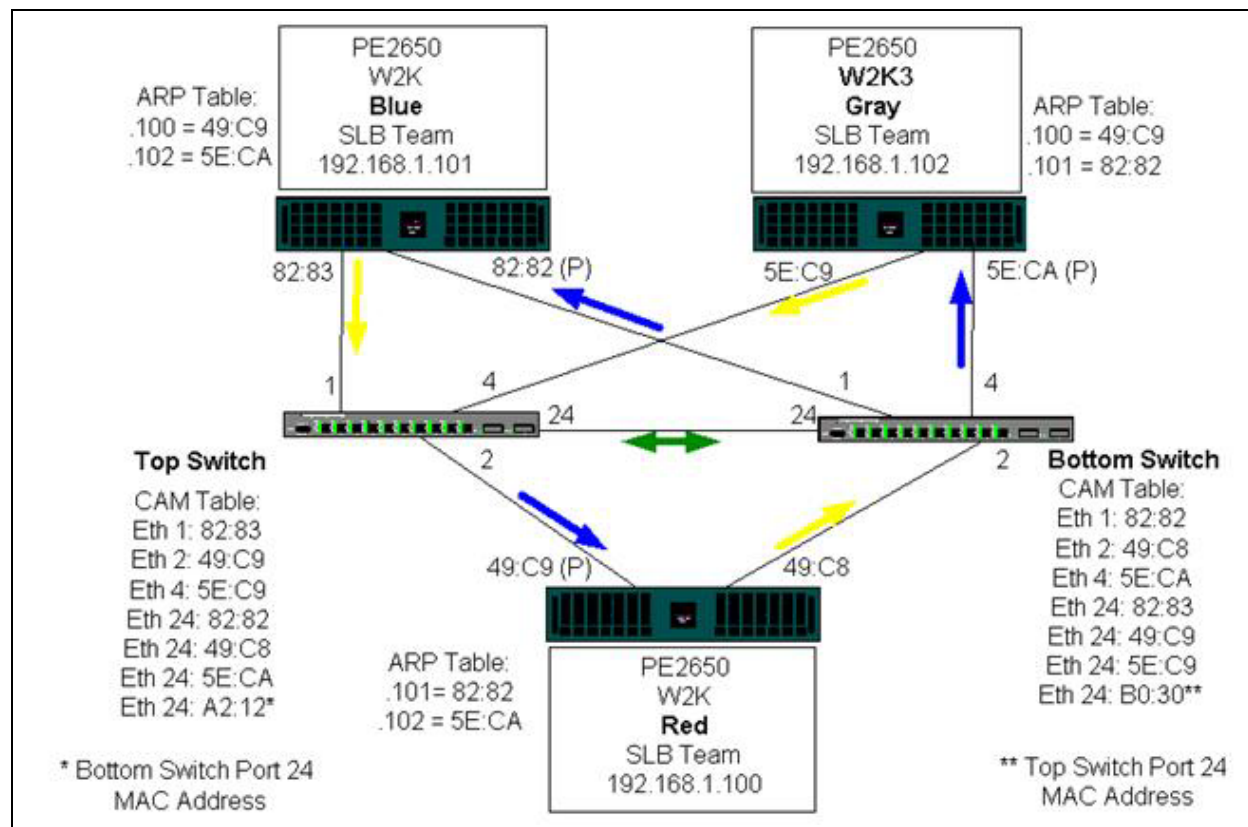

Figure 11-4. Teaming Across Switches with Interconnect
- Figure 11-4 has the interconnect cable in place.